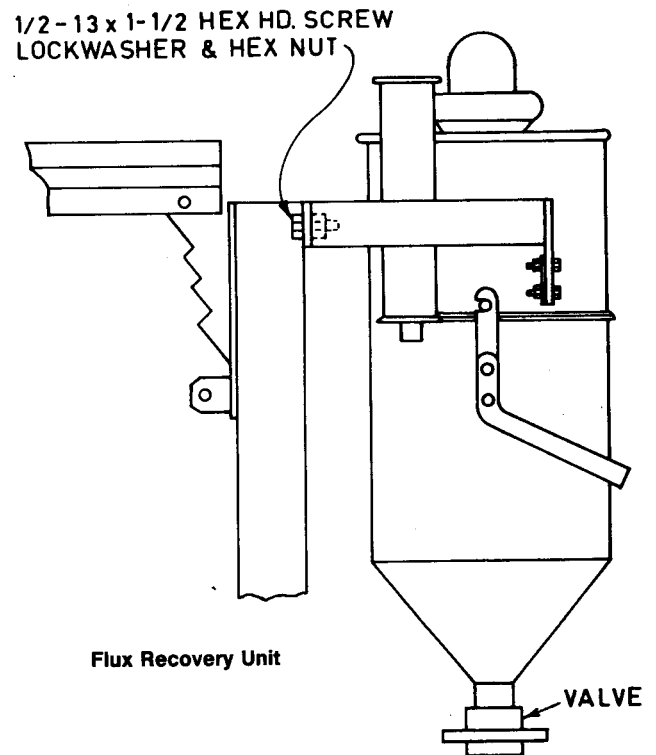

Figure 5
- A) Uncrate and assemble the unit to the mast-boom assembly using the two 1/2" bolts, lockwashers, and nuts per Figure 5.